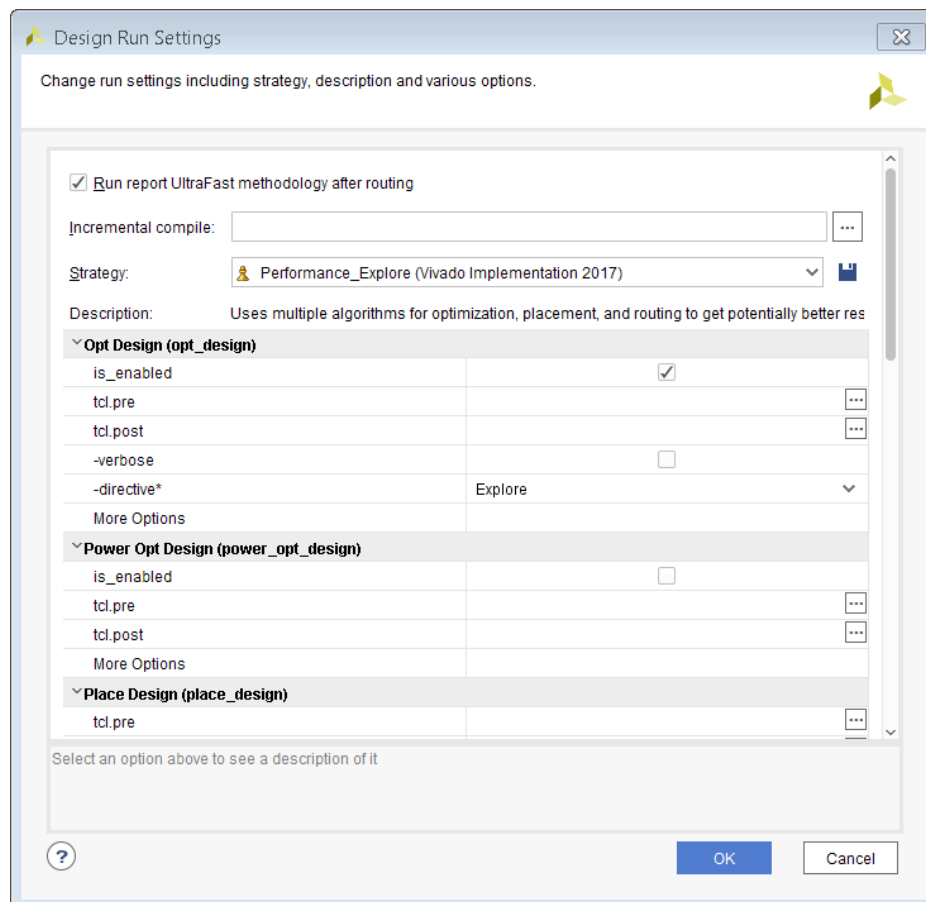

Figure 2-5: Design Run Settings
Specify design run settings in the Design Run Settings dialog box, shown in Figure 2-5. To open the Design Run Settings dialog box:
2. Select **Change Run Settings** from the popup menu to open the Design Run Settings dialog box, shown in Figure 2-5.